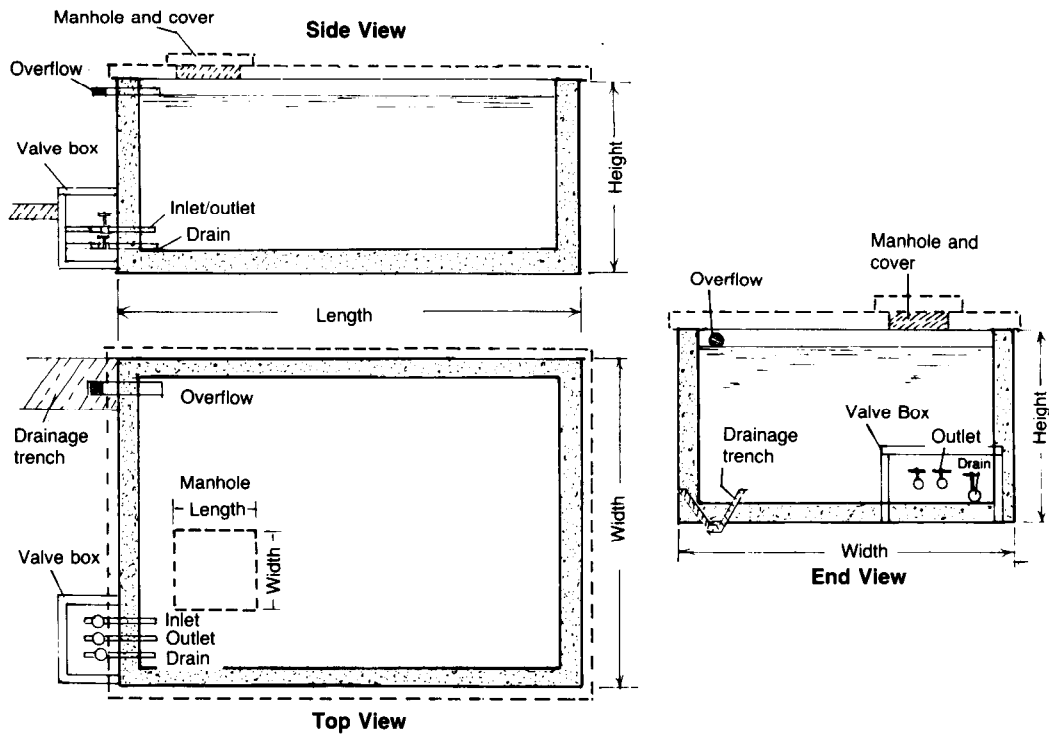

Figure 2. Storage Tank Design
3. A plan of the reservoir with all dimensions as shown in Figure 2. This plan shows a top, side and end view.